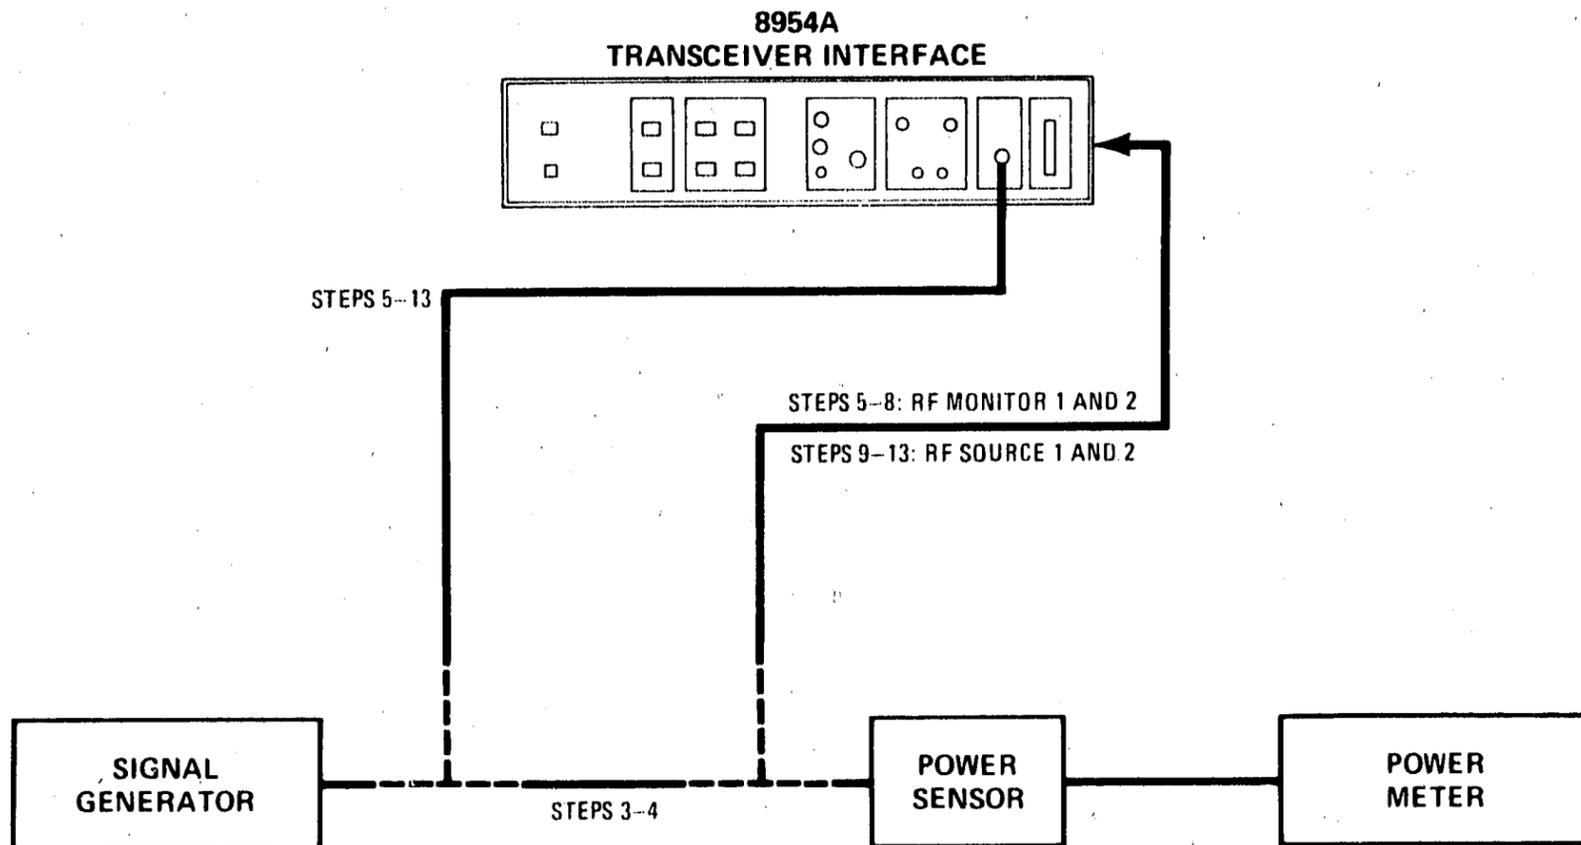

Figure 4-2. RF Insertion Loss Test
3. Connect the equipment as shown in Figure 4-2. Using the listed adapter HP 1250-0777, connect the power sensor to the output end of cable 11500B. (Calibrating at the end of the cable compensates for any loss that might be incurred within the cable.)